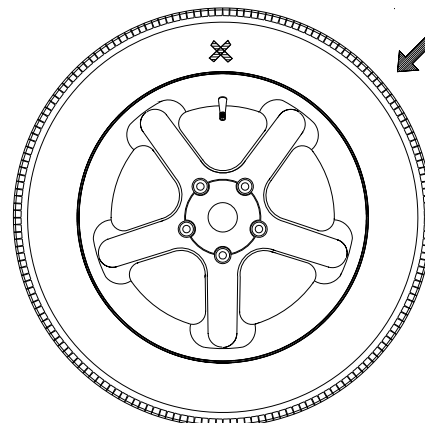

Figure 28 - Step 3, rotate tire on wheel so the valve and X mark line up. Rotate assembly to TDC, press "P".
(2) Remove the wheel assembly from the balancer and deflate and rotate the tire on the rim so the valve points to the cross mark on tire as shown in *Figure 28*